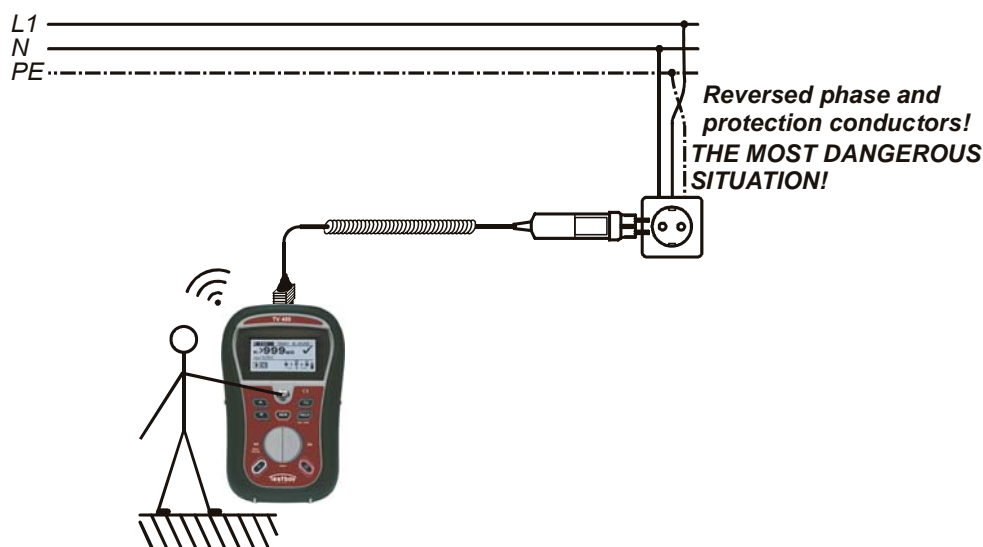

Figure 5.33: Reversed L and PE conductors (application of plug commander)
- ❑ **Connect** test leads to the item to be tested (see *figures 5.33 and 5.34*).